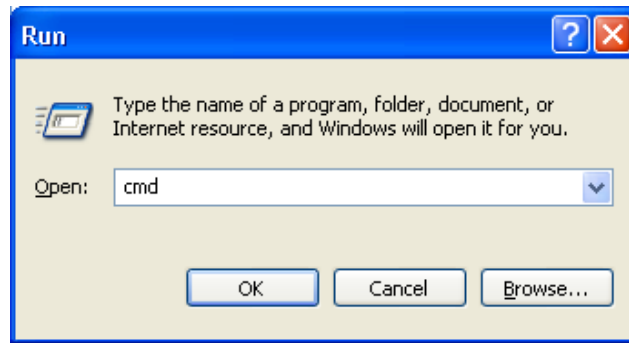

Figure 7-1: Run Window
4. Open a DOS window by selecting **Start > Run**, and typing “cmd” in the window that appears, as shown in Figure 7-1.